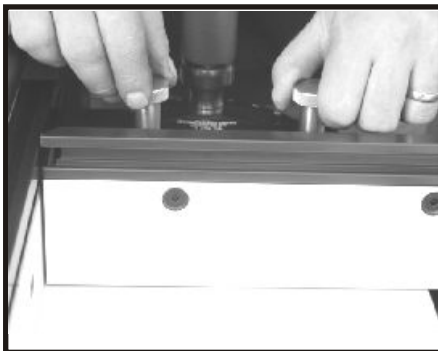

FIG. 14
12. Make sure the miter gauge bracket and the miter fence are not riding against the Mast-R-Fence. There should not be any contact with the face of the Mast-R-Fence. If you need to adjust the miter fence loosen the two brass knobs on the miter gauge and slide the fence over. Re-tighten the knobs when complete (Fig. 14 & 15). If the miter gauge bracket contacts the Mast-R-Fence re-adjust the shaft assembly forward.